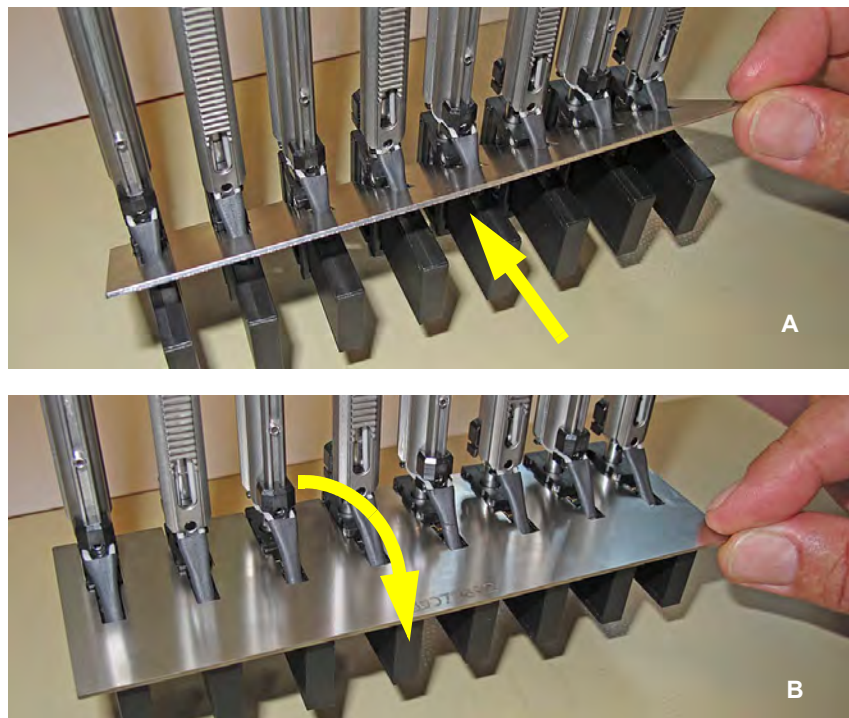

Fig. 7-12 Adjustment gauge for Air LiHa tip adapters
- 5 Spread the Z-rods and fix the Air LiHa tip adapters in position by inserting the adjustment gauge for the tip adapters as shown in Fig. 7-9, 2 7-37 (insertion sequence as in Fig. 7-12, 2 7-39)
- ♦ Make sure that the Air LiHa tip adapters are aligned correctly. It must be possible to insert the adjustment gauge onto the Air LiHa tip adapters as shown in Fig. 7-12, 2 7-39.